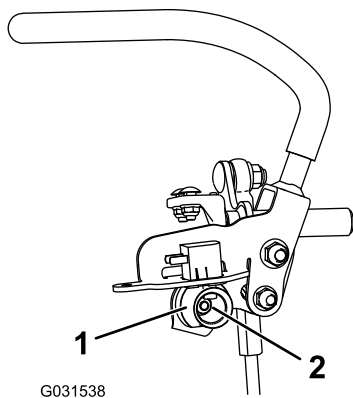

Figure 69
6. Loosen the nut holding the cam (Figure 69).